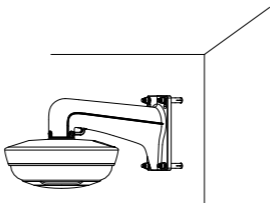

Figure 2-16 Secure the Camera
- 2) Rotate the camera anticlockwise, and tighten the two lock screws to fix the camera, as shown in Figure 2-16.